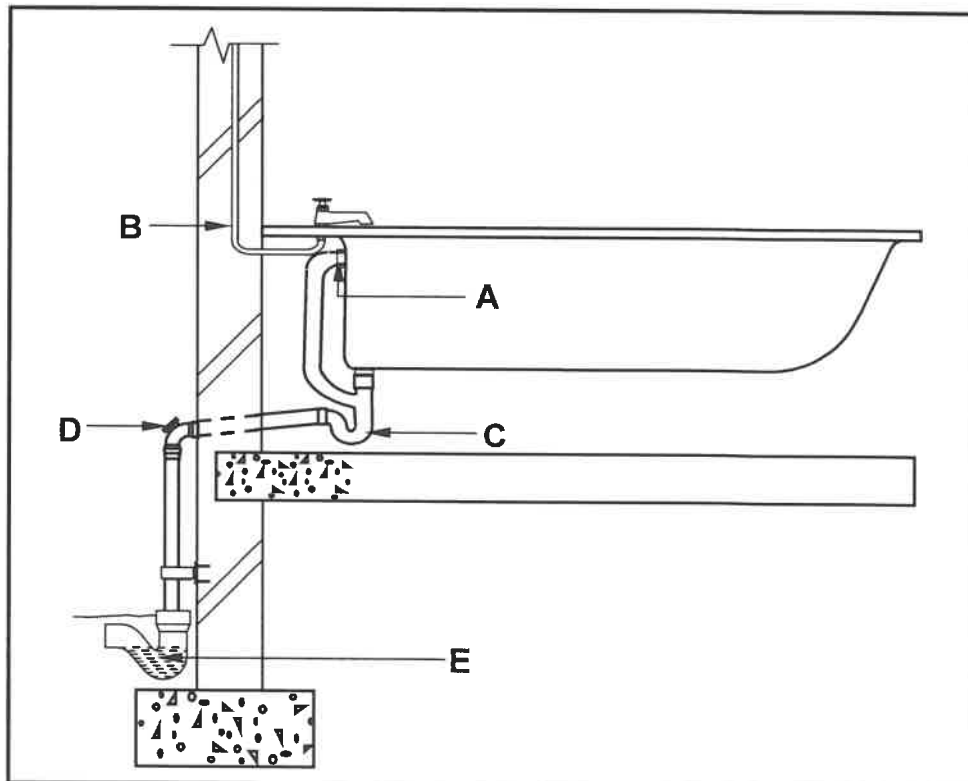

FIGURE 6.3
6.3 FIGURE 6.3 below is a drawing of a side elevation of an installed bath.